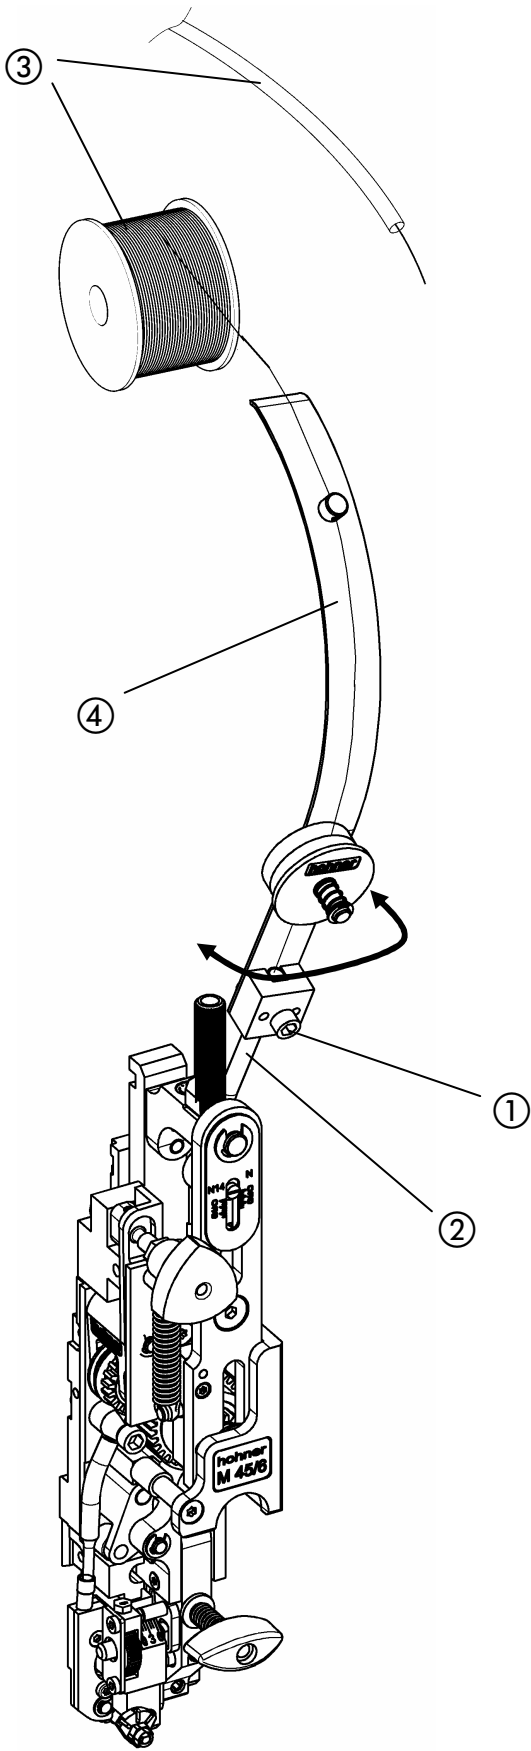

Fig. 5
- Fig. 5 -
- Loosen screw ① and place wire clamp ④ on wire guidance tube ②.
- Align wire clamp ④ with wire roller and wire feed tube ③, in order to ensure perfect wire guidance.
- Fix wire clamp ④ by tightening screw ①.